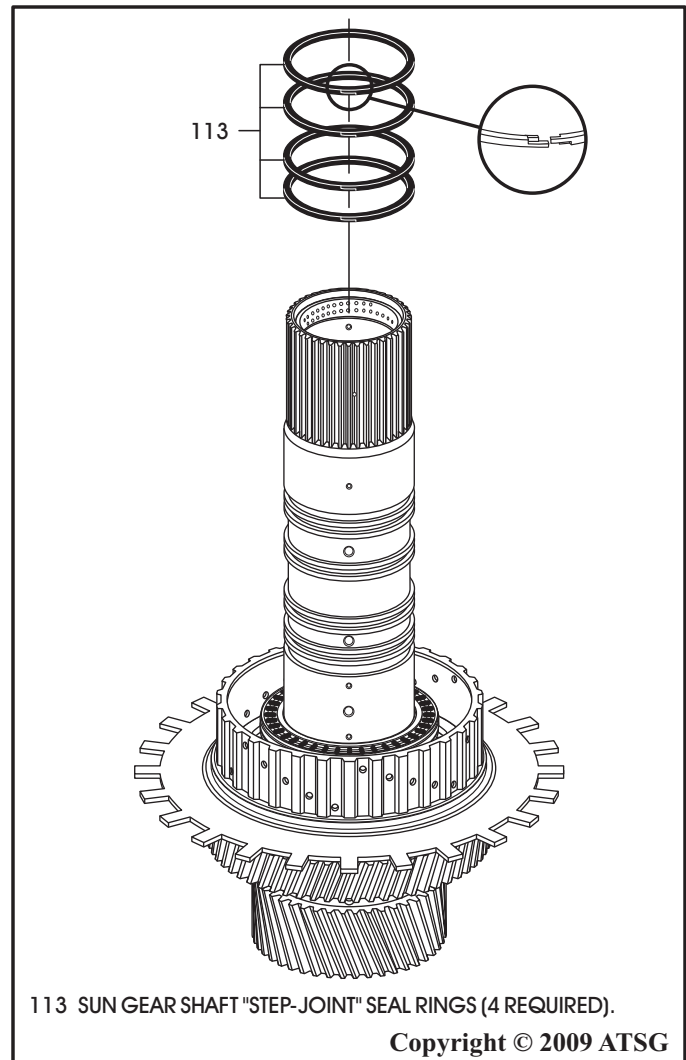

Figure 125
19. Install four new "step-joint" sealing rings into the grooves on the sun gear shaft, as shown in Figure 125, and ensure the steps are properly engaged.